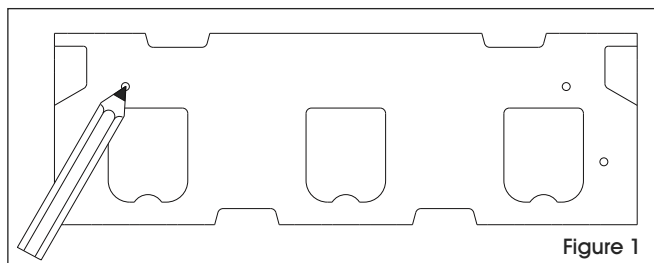

Figure 1
1. Locate studs and align the mounting template. Balance with the level and mark the holes using the template. (See Figure 1)